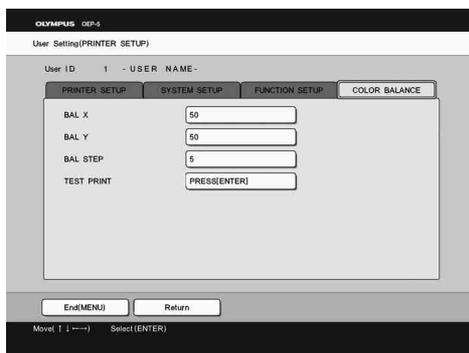

Figure 5.8
- 3 Press “◀” or “▶” to display the “COLOR BALANCE” menu (see Figure 5.8). The highlighted area in the display shows the current range that will be printed out for color balance adjustment.